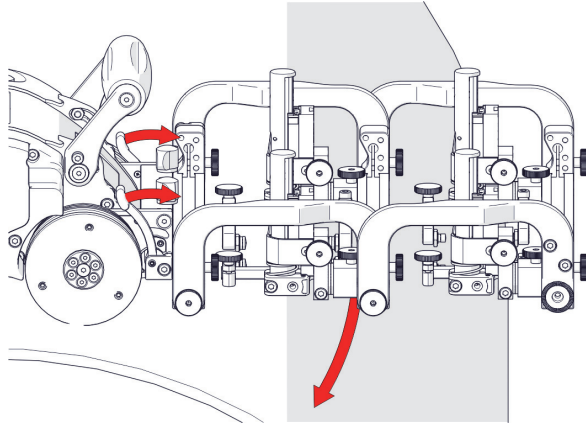
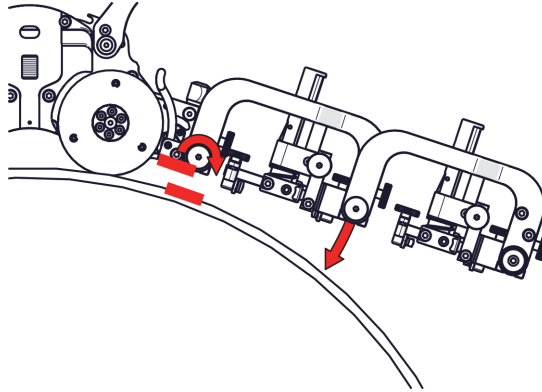

Figure 2-97 Align swivel mount with scan surface
Figure 2-98 Set rear rotational adjustment knob
3. Mount the probe holder frame to the crawler (see “Cable Retainer” on page 57 for additional details). When mounting the probe holder frame, ensure that the attachment knobs are at the front (noncrawler side) (see Figure 2-97 on page 111).
4. Release the two swivel mount levers (see Figure 2-97 on page 111) to position the swivel mount parallel to the scan surface (see Figure 2-98 on page 112). When alignment with scan surface is achieved, lock the crawler swivel mount levers.
5. Loosen the rear rotational adjustment knob to lower the weld scan frame toward the inspection surface (see Figure 2-98 on page 112).